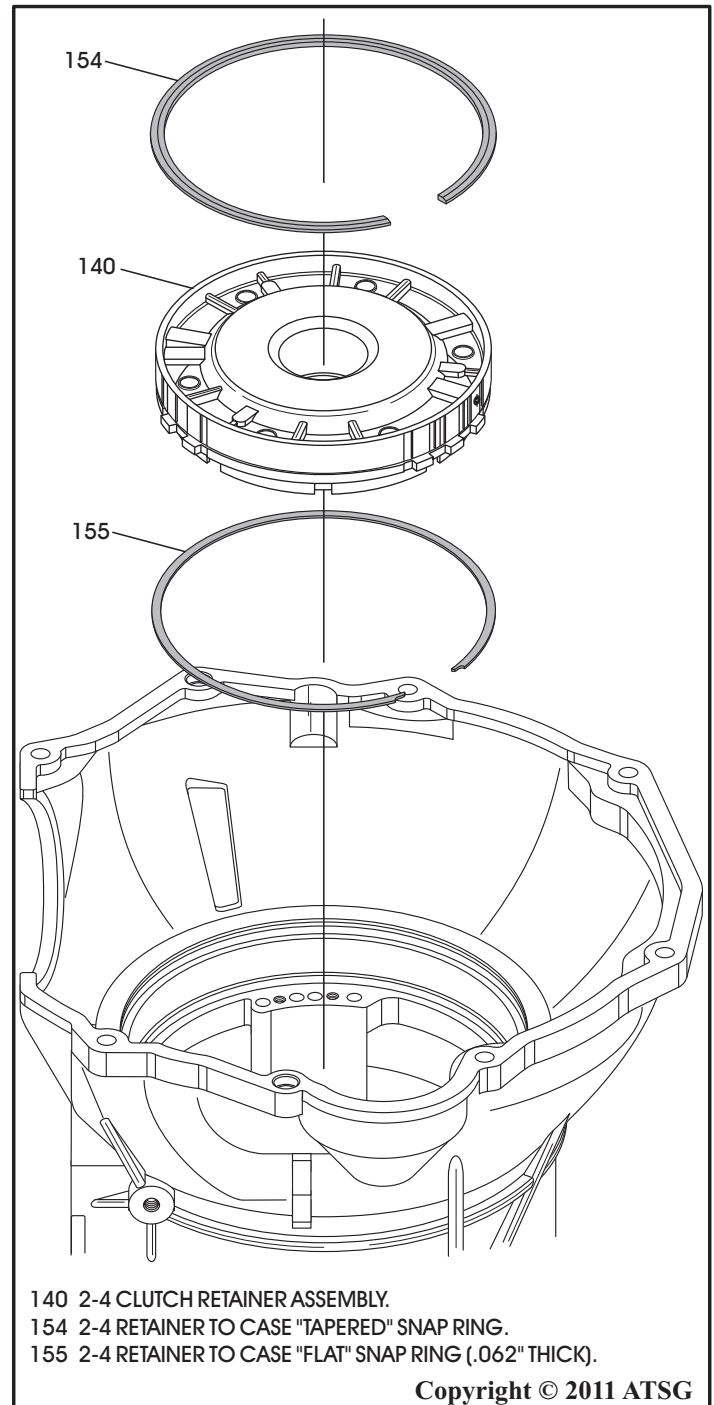

Figure 138
3. Install the **flat** 2-4 retainer snap ring into case, as shown in Figure 138.
4. Install the 2-4 clutch retainer into case, as shown in Figure 138.
5. Install 2-4 clutch retainer **tapered** snap ring with taper facing up, as shown in Figure 138.